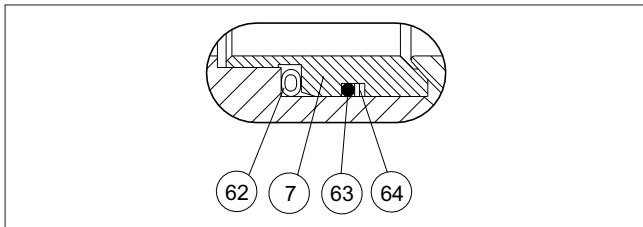

Fig. 27 S-seat
- Place the back seal (O-ring) (63) into the groove in the seat. See Figures 27, 28 and 29..
- Place the back-up rings (64) made of PTFE strips at the side of the O-ring. To ensure that the seam becomes flexible, the strip must have slanted ends.